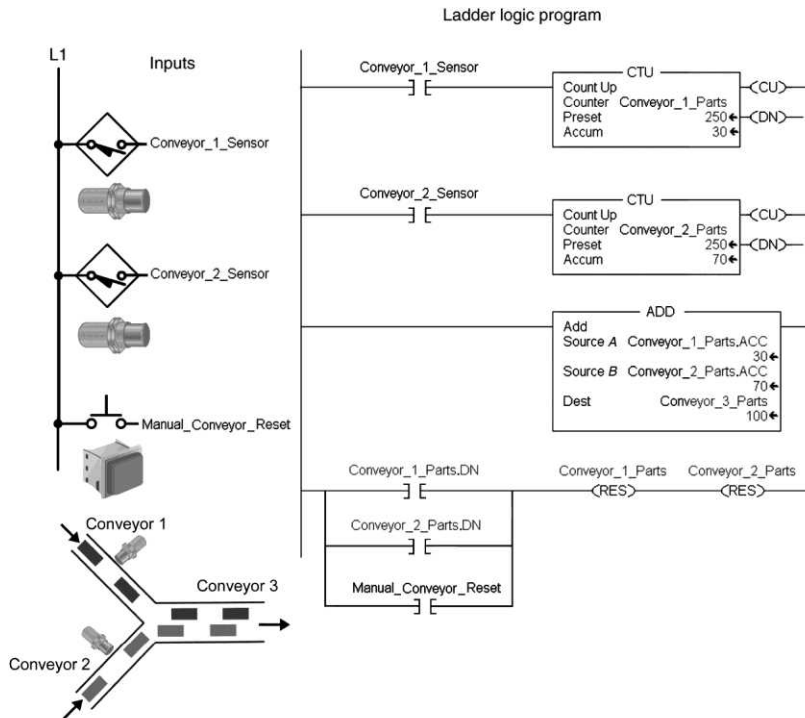

Figure 15-48 Parts tracking program for assignment 1.
- 1) The program of Figure 15-48 is used as part of a parts tracking system and is described in the text. Prepare an I/O connection diagram and ladder logic program that will simulate its operation. Utilize field devices found on your ControlLogix installation. Enter the program into the controller, and monitor its operation.